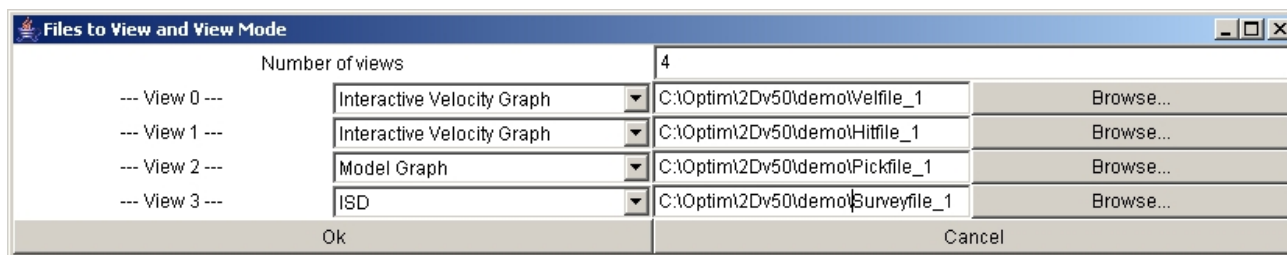

Figure 15: Click on ‘Settings’ and browse and select the files to be viewed.
21. On clicking 'Finish' (Figure 13) or 'Ok' (Figure 14), the riotsbat file will be scheduled for batch processing. It will appear in the Tasks window as shown in Figure 15. If you wish to start the job immediately, highlight the riotsbat name and choose 'Run' from the File menu. To delete it from the queue, highlight riotsbat and choose 'Delete' from the File menu. Batch processing will start at the specified time and date.
To load the files click on the 'Settings' button. The window shown in Figure 15 opens up. Browse and select the appropriate files.